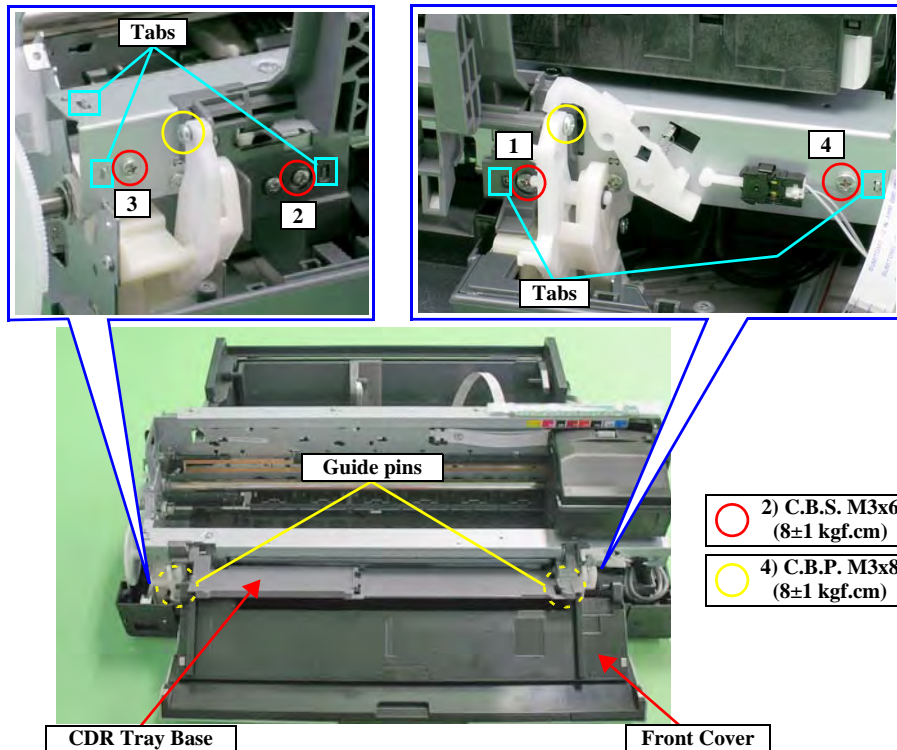

Figure 4-106. Screws that Secure the Paper EJ Frame Assy
- Match the tabs with the five positioning holes. See Figure 4-106.